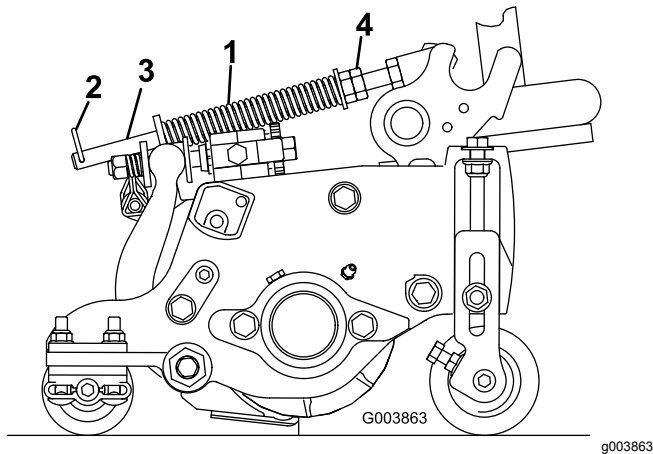

Figure 15
The turf-compensation spring transfers weight from the front to the rear roller (Figure 15). This helps to reduce a wave pattern in the turf, also known as marcelling or bobbing.
1. Make sure that the hairpin cotter is installed in the rear hole in the spring rod (Figure 15).
2. Tighten the hex nuts on the front end of the spring rod until the compressed length of the spring is 12.7 cm (5 inches) for 5-inch cutting units or 15.9 cm (6.25 inches) for 7-inch cutting units (Figure 15).